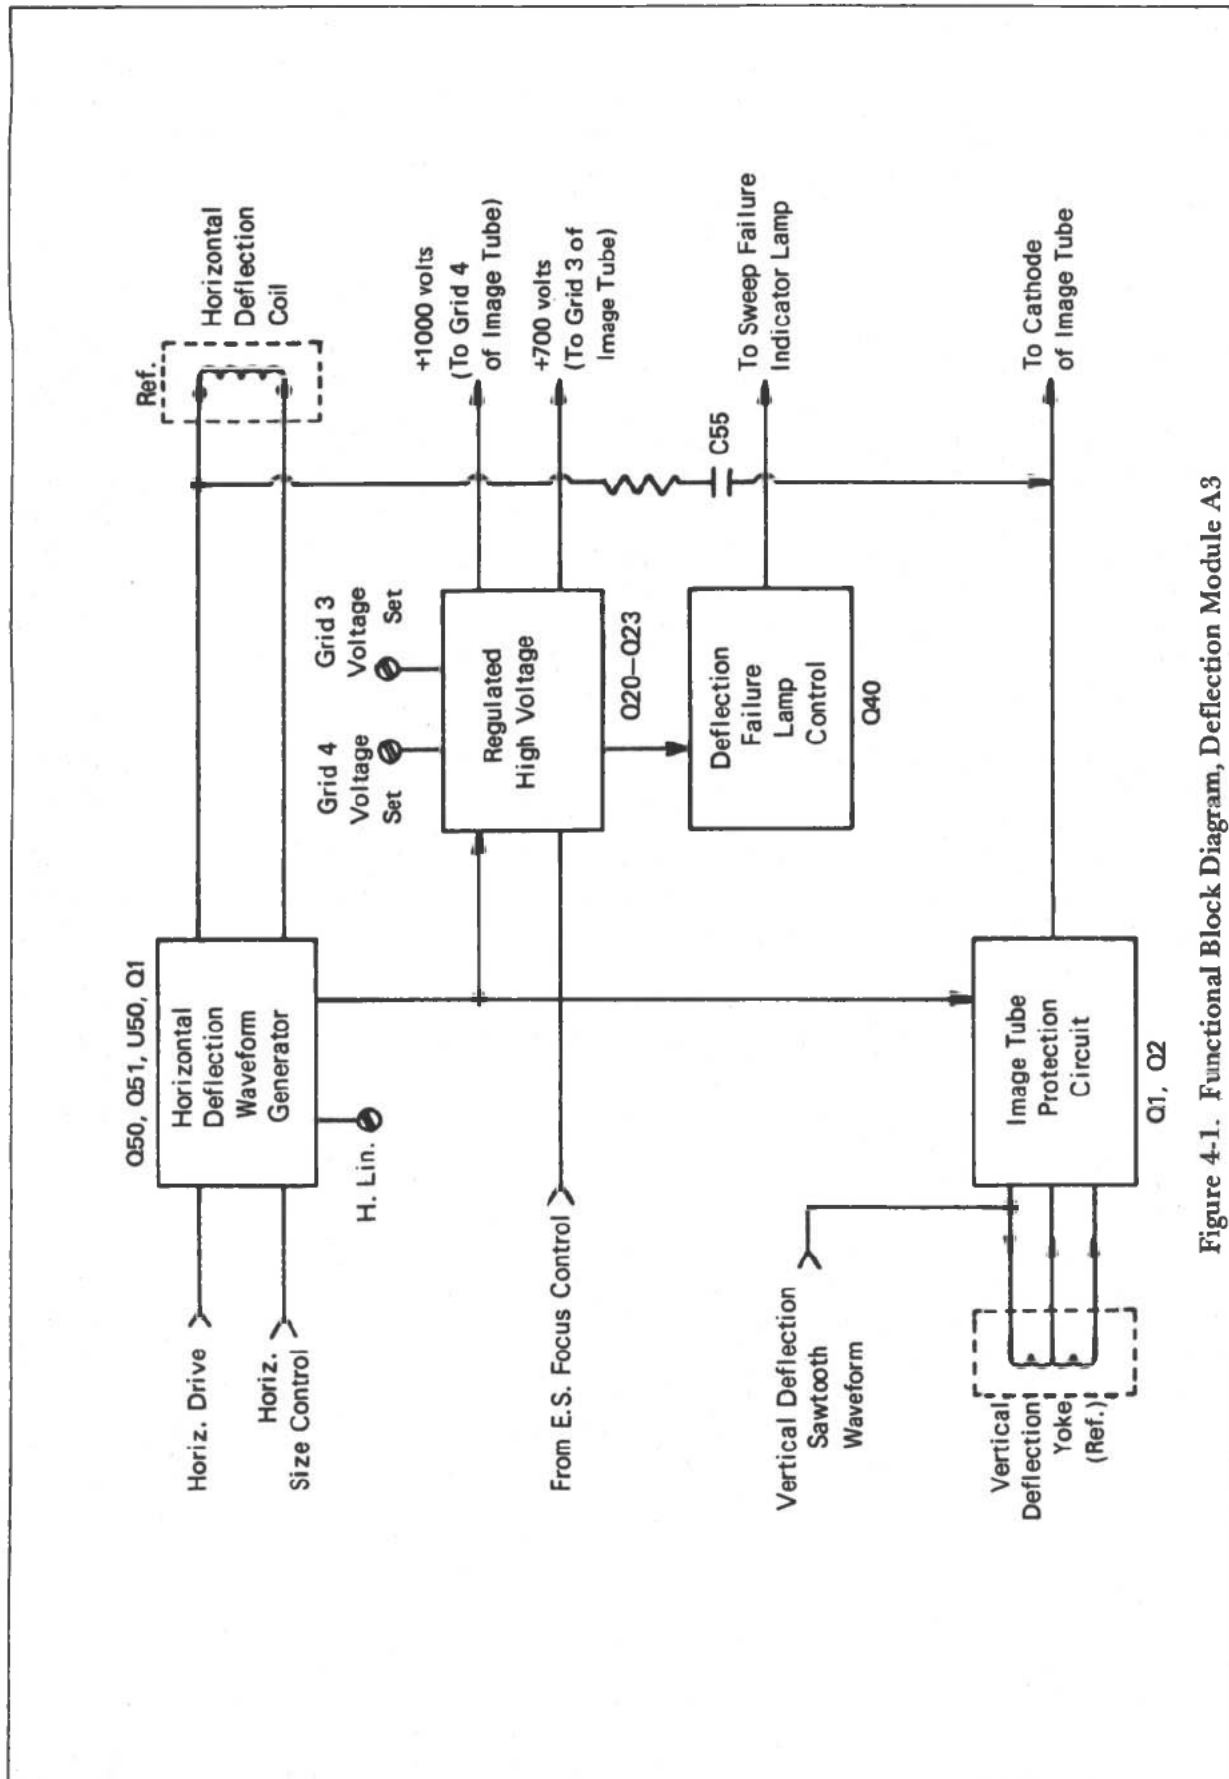

Figure 4-1. Functional Block Diagram, Deflection Module A3
A functional block diagram of the circuits in the deflection module is shown in Figure 4-1. The schematic for the module can be found at the end of the section. For descriptive purposes the circuits in the module can be divided into: (1) a horizontal deflection waveform generator; (2) an image tube protection circuit; (3) a deflection failure indicator lamp control; and (4) a regulated high-voltage supply. The descriptions are under corresponding headings in Paragraphs 4-4 through 4-7.